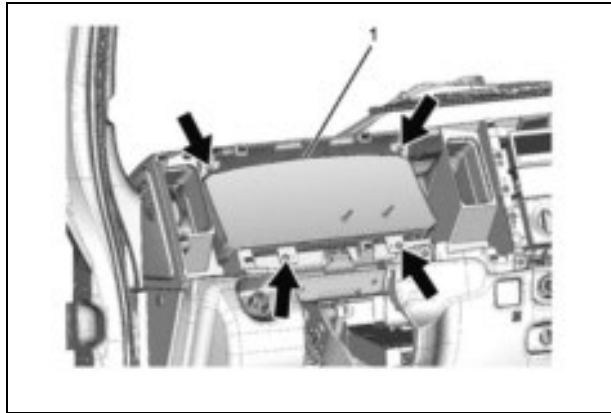

Figure 16
16. Remove the instrument panel cluster from the instrument panel. Remove four (4) T25 screws and disconnect one (1) connector. (See Figure 16.)